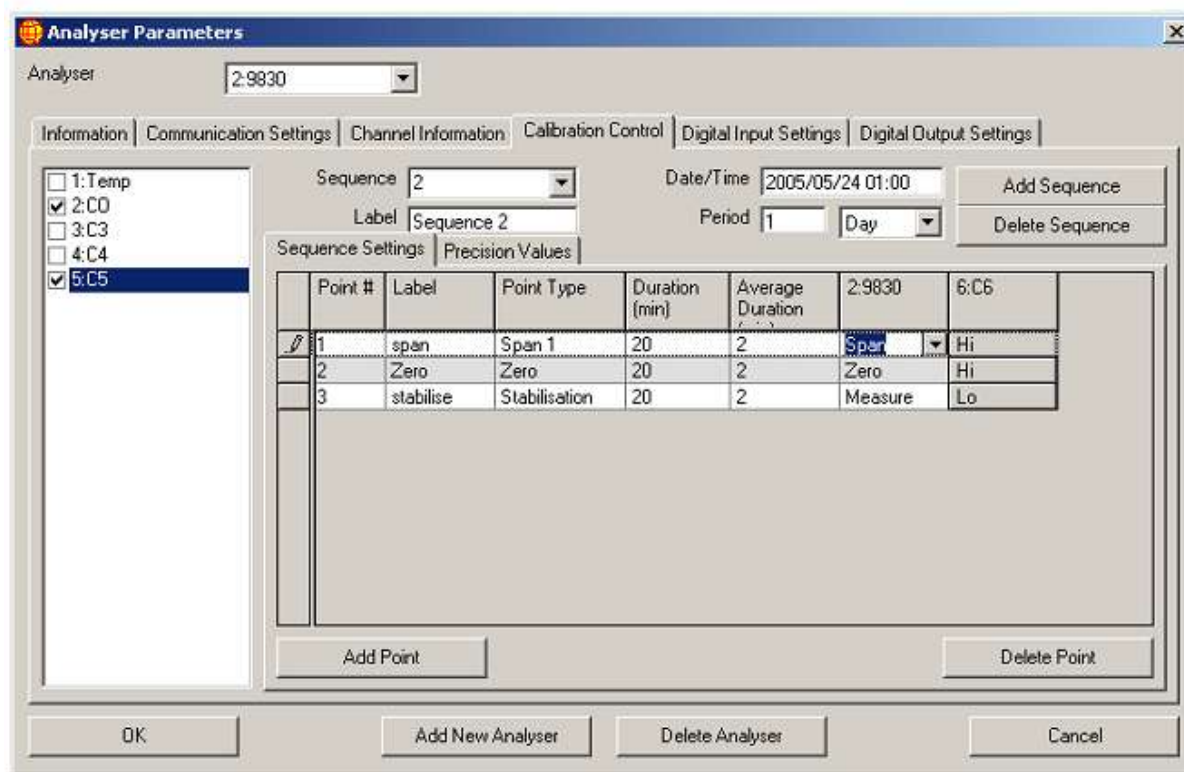

Figure 26 Calibration Control in Analyser Parameters
- Average duration (min):** This is the length of time that the measurement will take place and is displayed as a average over that time i.e. if set to 2 as in Figure 26 then readings will be taken over minutes 18 to 20 and the average measurement over this time will be recorded.